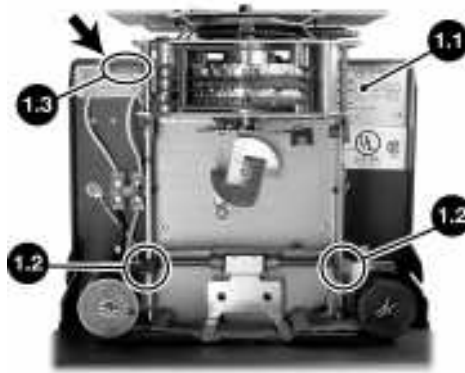

Figure 1
*Example: Since the fourth digit in the model number 2104 is a "4", it will print with 00-59 minutes and 00-23 hours (see table above). The model number is located on the **Label 1.1** positioned as shown in **Figure 1**.*
4. Press either side of the **Type Section Headlock – 1.2** and pull upward on the lower part of the Clock Face until the Type Section locks in the up position as shown in **Figure 1**. Note position of the Overthrow Lever and the Setting Wheel.